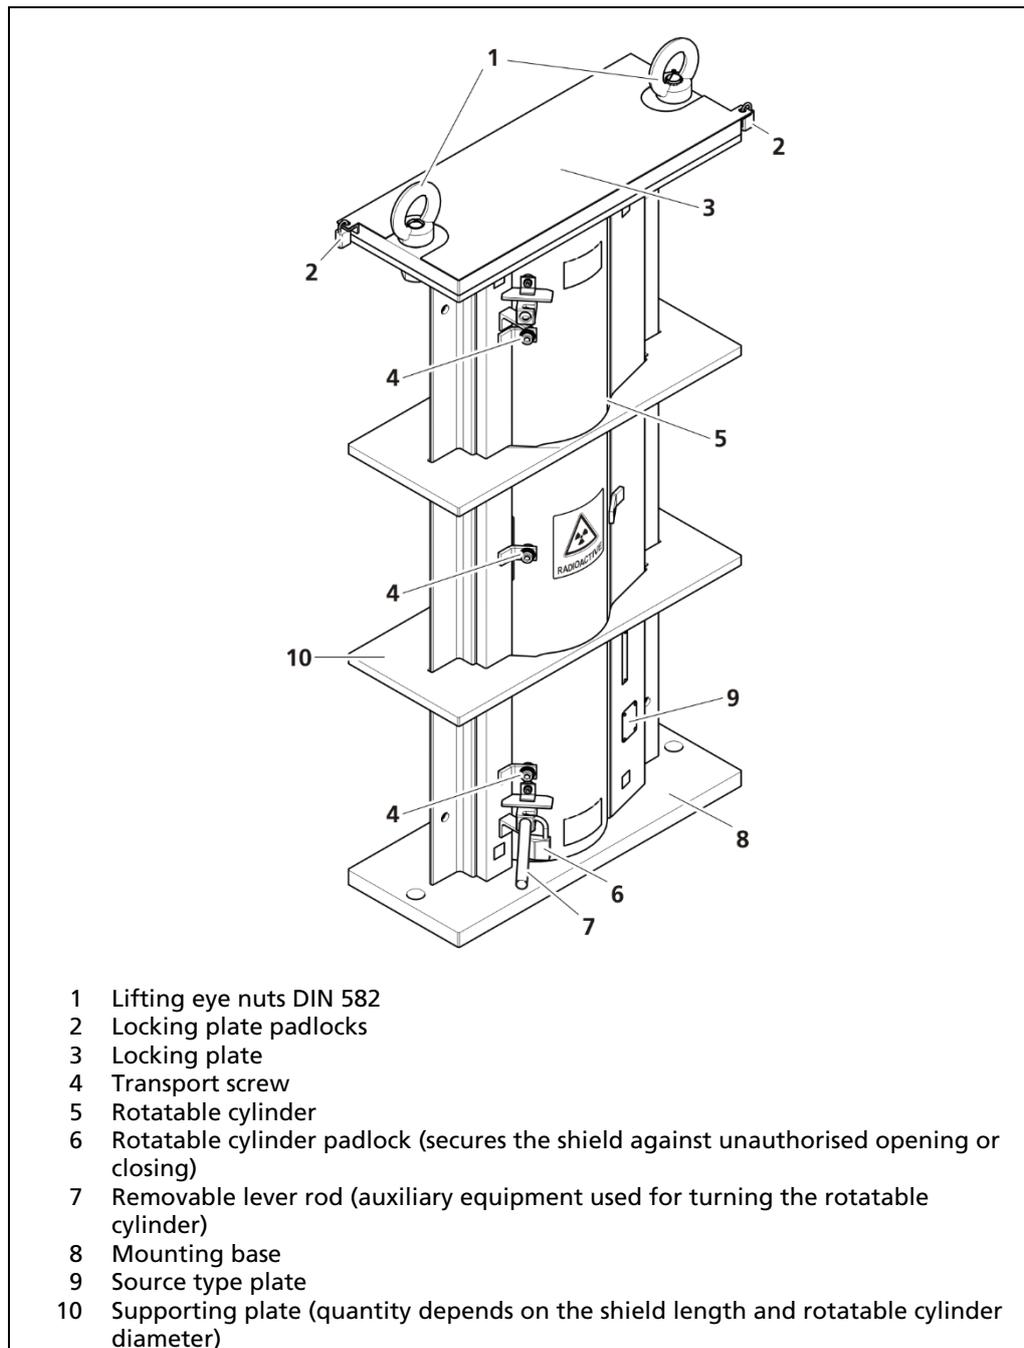

Fig. 2 Basic layout
Mount shield using the lifting eyes (Fig. 2, item 1). The minimum permissible temperature during installation is **-20 °C**.